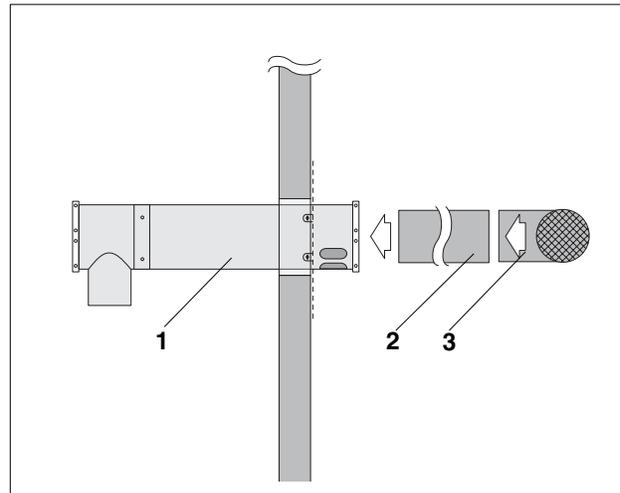

Fig. 9 Installation of exhaust pipe
- Insert a 2 or 3 foot straight exhaust pipe (Fig. 9, **Item. 2**) from the outside into the wall terminal body. Slide termination tee on exhaust pipe and seal joint with silicone (Fig. 9, **Item. 3**). Orient termination tee horizontally and observe the manufacturer's installation instructions.